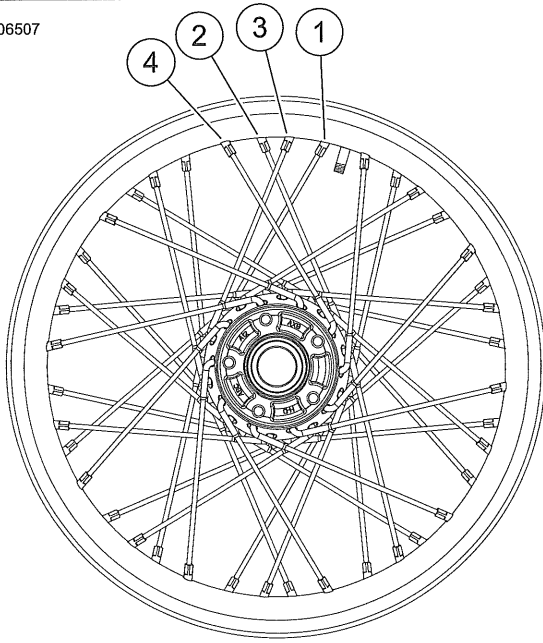

Figure 2-15. Tightening Laced Wheels (typical)
2. See Figure 2-15. Starting at the valve stem, identify the first group of four spokes (1-4).
1. See Figure 2-15. Starting with the first group of spokes, loosen spoke (1) one-quarter turn using SPOKE WRENCH (PART NUMBER: HD-94681-80).
2. Using SPOKE TORQUE WRENCH (PART NUMBER: HD-48985) tighten spoke (1) to the value listed in Table 2-9.
3. Repeat previous two steps for spoke (4) in the same group.